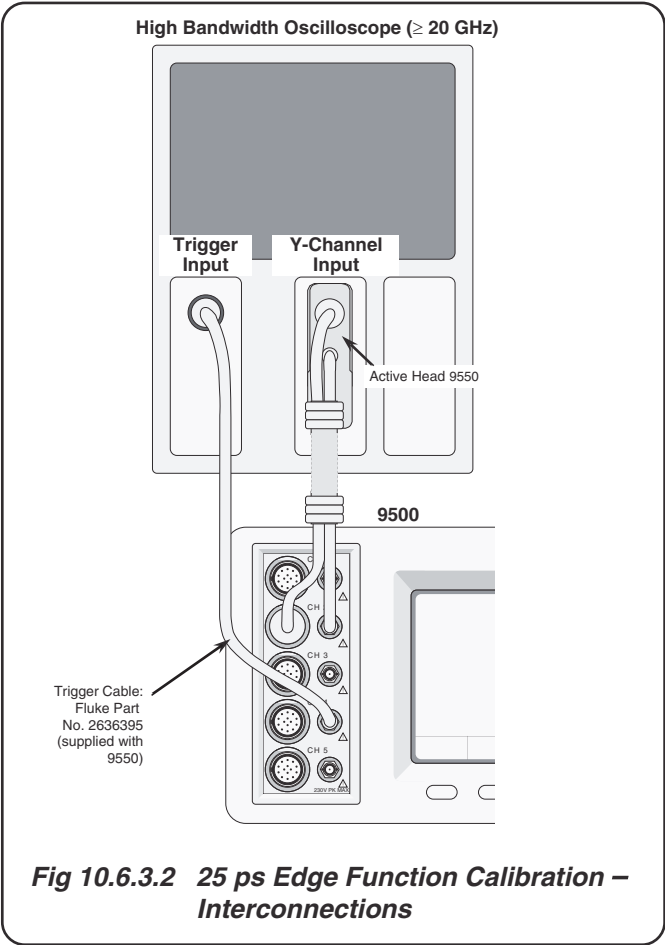

Fig 10.6.3.2 25 ps Edge Function Calibration – Interconnections
On page 10.6-12, **under 10.6.3.12 Calibration Procedure: 25ps Edge: Speed** replace the entire section with the following and add figure 10.6.3.2 and delete Table 10.6.3.9:
1. Ensure that the 9500B is connected to the oscilloscope as shown in figure 10.6.3.2 and that both instruments are powered on and warmed up. (Be sure to use the appropriate connector adapter as necessary to connect the 9550's SMA output connector to the input connector of the oscilloscope.)
Add the following Figure 10.6.3.2